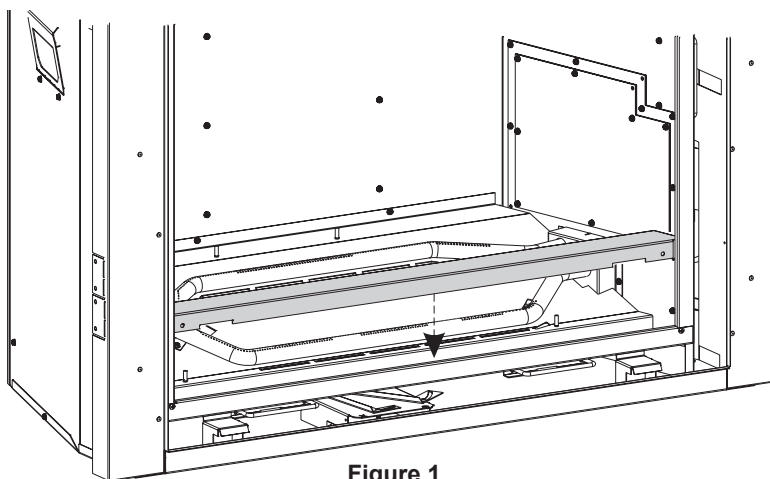

Figure 1
2. Place the BOTTOM FRONT LINER as (Shown In Figure 1).